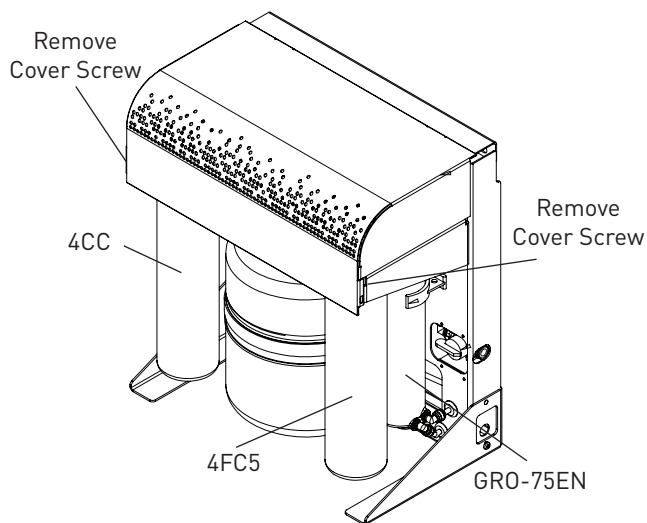

Figure 4
The cover is removed for the installation of the cartridges and flushing of the Conserv 75S System. Remove the two (2) screws (Figure 4) and lift the cover off.